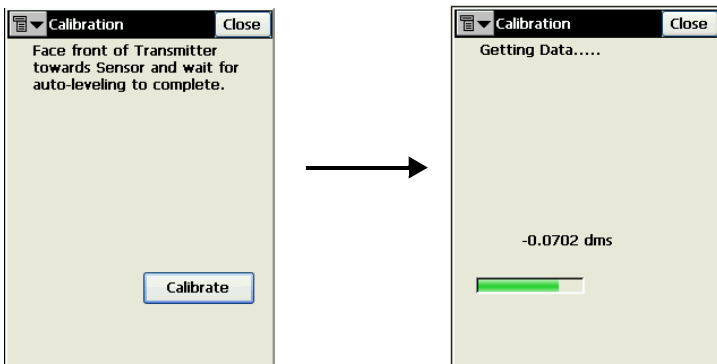

Figure A-15. Begin Field Calibration
7. tap **Calibrate** after the auto-levelling process completes (Figure A-15).